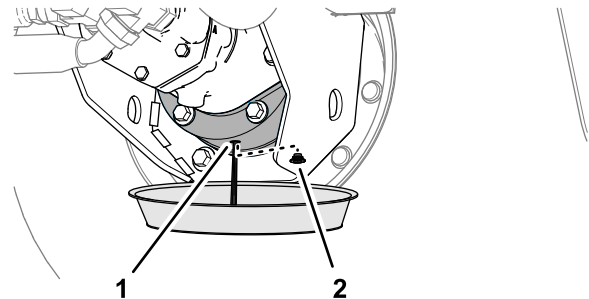

Figure 87
6. Place a drain pan under the brake housing, remove the drain plug, and allow the lubricant to drain completely (Figure 87).